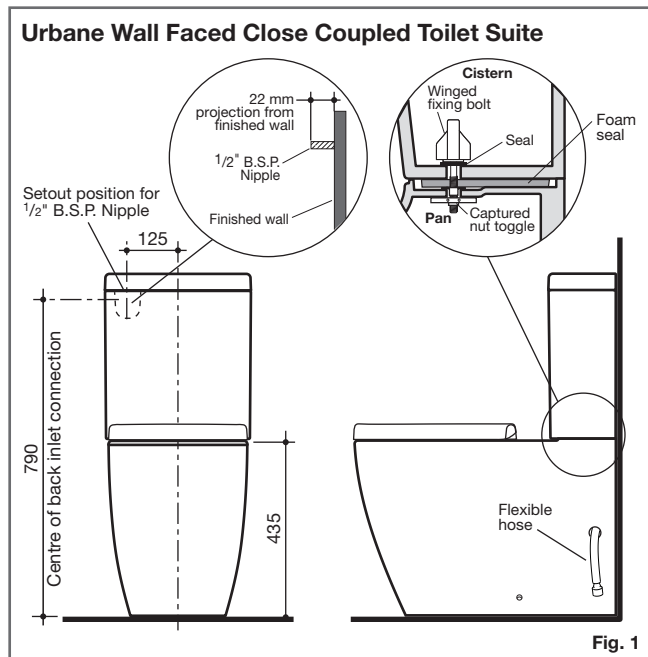

Fig. 1
- 1- Ensure the foam seal at base of cistern is securely attached to cistern base, as detailed in Fig. 1.
- 3- Fit the seals into the winged fixing bolts, as detailed in Fig. 1. Twist and remove main top section of outlet valve to access bottom of cistern.
- 4- Insert the winged fixing bolts through the cistern fixing holes into the threaded fixing holes located in the pan. Gradually tighten the left and right hand nuts by hand to firmly secure the cistern to pan, as detailed in Fig. 1. Replace outlet valve ensuring orientation is correct.
- 4- Insert the winged fixing bolts through the cistern fixing holes into the threaded fixing holes located in the pan. Gradually tighten the left and right hand nuts by hand to firmly secure the cistern to pan, as detailed in Fig. 1.